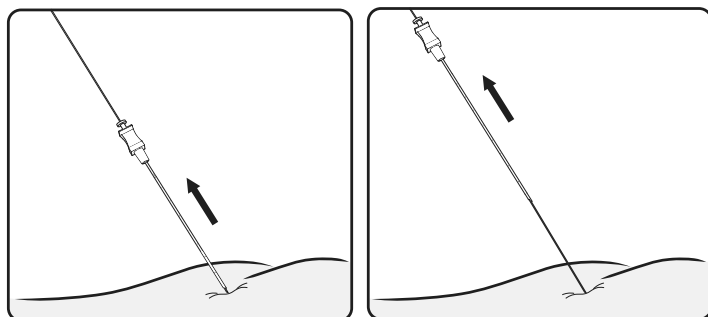

Figure 9. Remove the foramen needle
4. While keeping the directional guide in place, gently slide the foramen needle out of the foramen over the directional guide, leaving the guide in place (**Figure 9**).